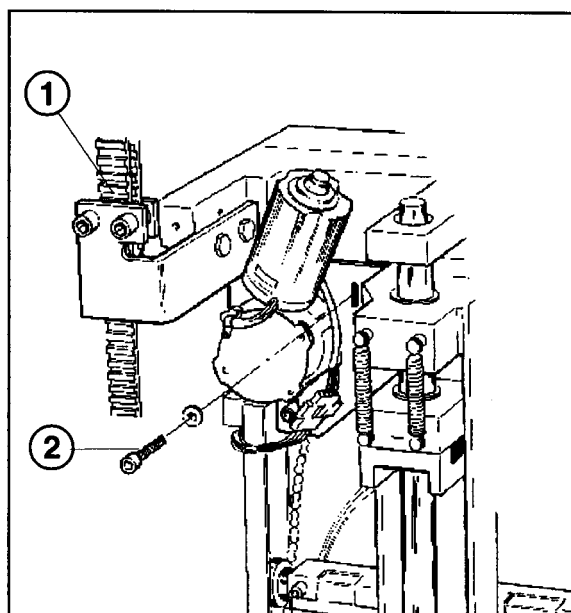

Fig. 13
- Open the driving belt (1/Fig. 13).
- Loosen the three screws (2/Fig. 13), disconnect plug and remove the motor.